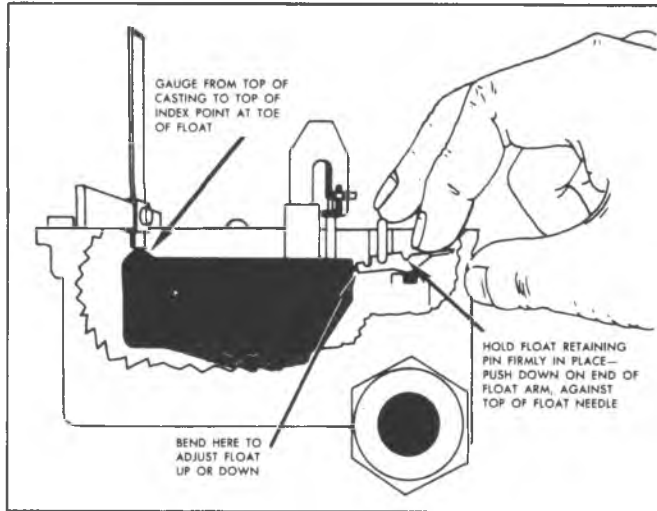

Fig. 6C1-24--Float Level Adjustment
**Float Level Adjustment (Fig. 6C1-24)**